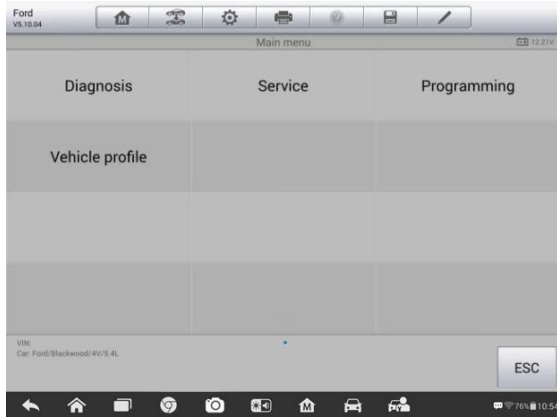

Figure 4-2 Sample Vehicle Diagnostics Screen
5. Tap **Done**. Once the vehicle is identified, the Vehicle Diagnostics screen displays. (*Figure 4-2*)